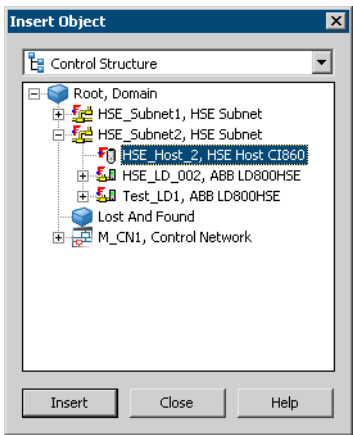

Figure 181. Insertion of an HSEHostCI860 Object
4. Select the appropriate HSEHostCI860 object from an HSE Subnet in the following dialog (refer to Figure 181).